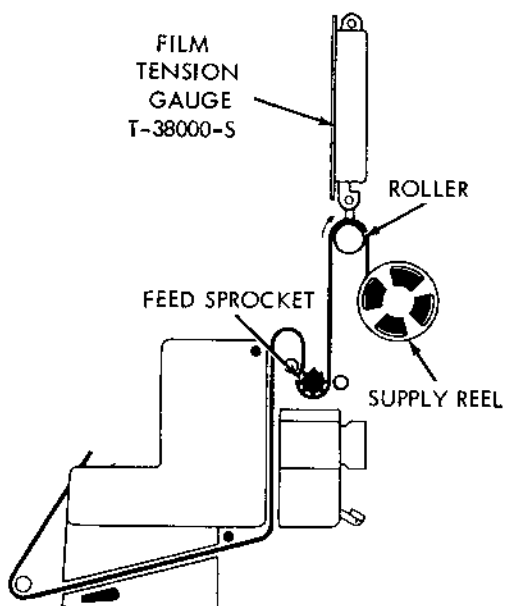

Figure 15B. Reverse Take-up Tension Measurement
2. Reverse Take-up Tension Measurement (See Figure 15B)